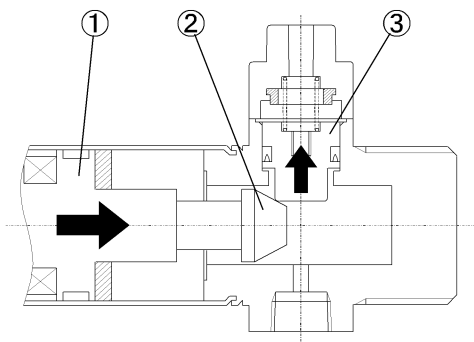

Fig.1
- (a) When the piston ① of the cylinder approaches the stroke's end, the stopper piston ③ is pushed up along the slope of the sleeve ② (Fig.1).